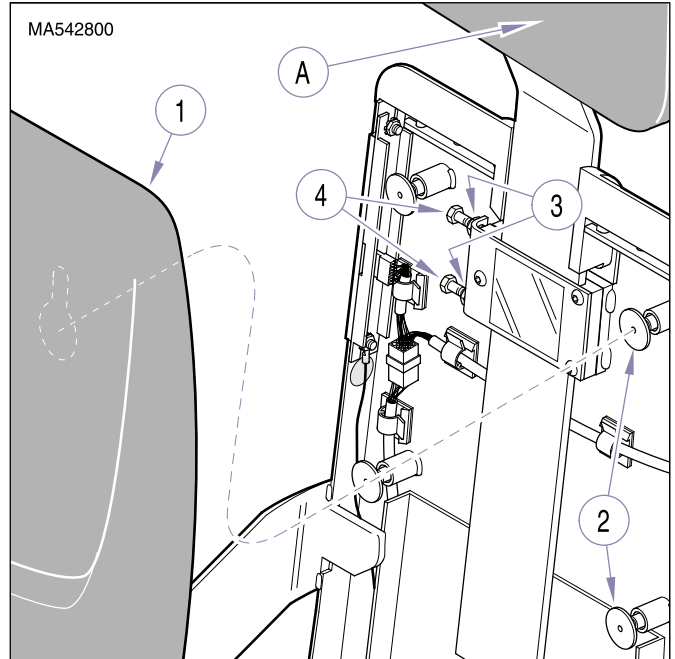

Figure 4-27. Headrest Slide Adjustment
- (1) Raise Back Up function all the way up.
- (2) Remove back upholstery by pulling back upholstery (1, Figure 4-27) approximately 1 in. (2.5 cm) toward head of chair and then lifting upholstery straight off of four locking rings (2).
- (3) Loosen two jam nuts (3).